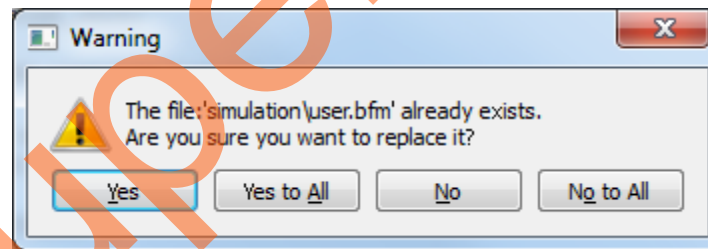

Figure 33. Replacing Existing user.bfm File
- A warning message is displayed, as shown in Figure 33. Click **Yes**.